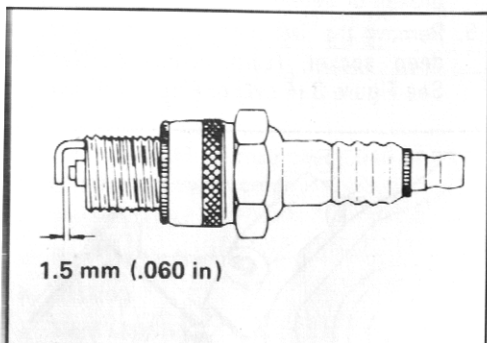

Figure 5 - Correct spark plug gap, 4-cylinder
- For the 4-cylinder, gap the new plug to 1.5mm (.060 in.). See Figure 5. For the 6-cylinder, gap the new plug to 1.1mm